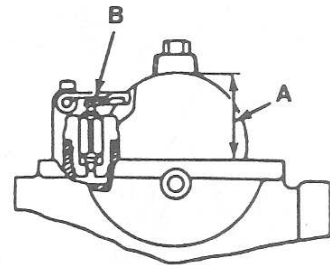

Fig. K10-7—Float height is measured at (A). Gently bend float arm tang (B) to adjust. Float height (A) should be 15.1-19.1 mm (0.59-0.75 in.).
the top of the jet needle on A1 and A2 models and the third groove from the top on B1 and B2 models. Float height (A—Fig. K10-7) should be 15.1-19.1 mm (0.59-0.75 in.) as measured from gasket surface of carburetor body to lowest edge of float. Adjust the float level by bending tang (B) on float arm.
The fuel level is checked with the carburetor installed and vehicle operational. To check fuel level, attach Kawasaki fuel level gage 57001-202 (T—Fig. K10-8) or a suitable plug and clear hose equivalent in carburetor bowl drain plug opening. Hose should be of sufficient length to extend above the bottom edge of carburetor body without kinking the hose. Run the engine at idle speed until fuel level in hose stabilizes, then stop engine. Measure the distance from the bottom edge of carburetor body (float bowl contact surface) to fuel level in hose to determine fuel level as shown at (L). Fuel level check will not be accurate if hose is raised or lowered after fuel level has stabilized. Fuel level (L) should be 0-2 mm (0-0.08 in.). To adjust fuel level, the float bowl must be removed to carefully bend float arm tang (B—Fig. K10-7).